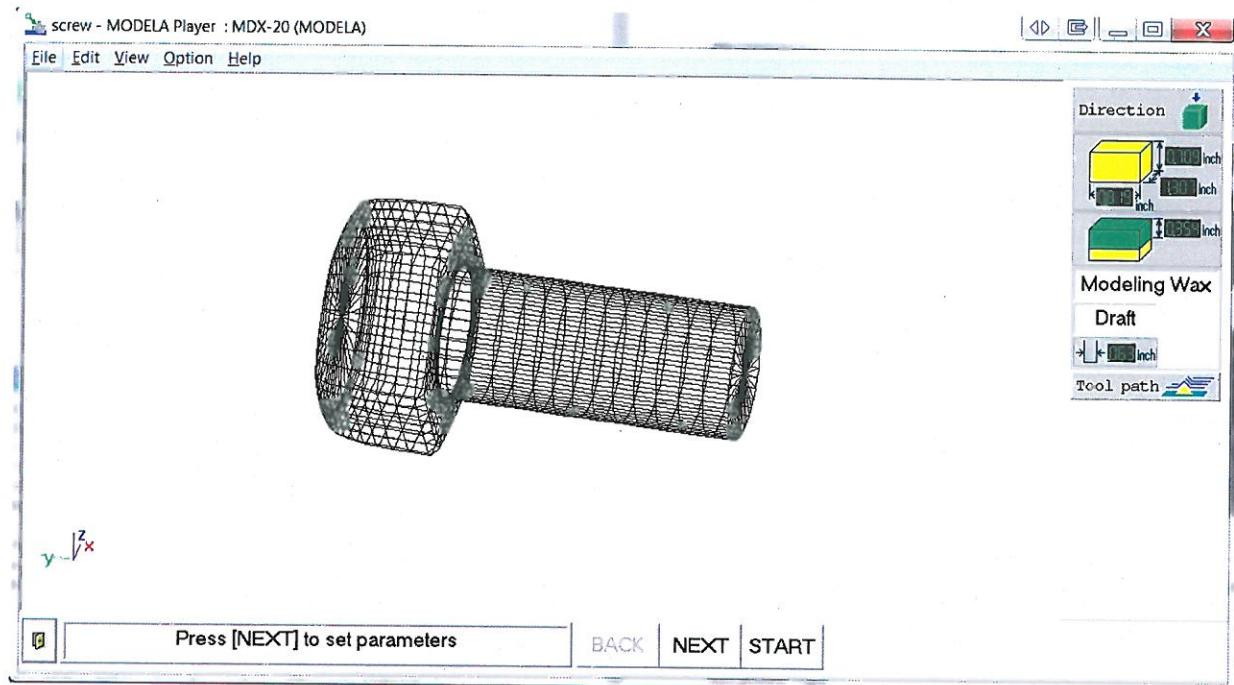

Figure 7: Main View of Modela Player
8. Go to **File—Open**, and then select your file. .STL, .DXF, or .MDJ files can be made using any 3D CAD software package (Google Sketchup, Solidworks, AutoCAD, etc.) (Figure 7).